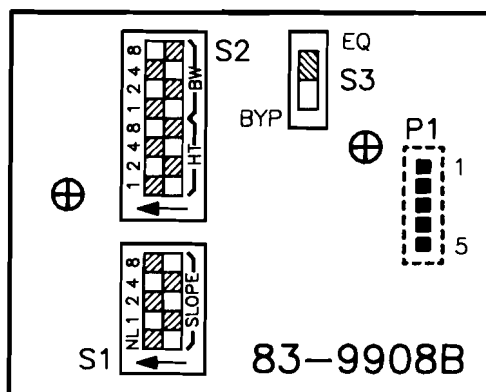

figure 6. 9908B switch locations
2.03 The 9908B contains one option switch, *S3*, a two-position miniature slide switch whose location on the subassembly is shown in figure 6. Depending upon the setting of this switch, the 9908B's equalization circuitry is either inserted into the host module's transmission path or electrically bypassed, as desired. Set *S3* as follows:
figure 6. Switch *S1* is a five-position DIP switch that conditions the subassembly for use with nonloaded or loaded cable (*SLOPE NL position*) and also controls the degree of slope for the equalization introduced (*SLOPE 1, 2, 4, and 8 positions*). Switch *S2* is an eight-position DIP switch that controls the height of bump of the equalization introduced (*HT 1, 2, 4, and 8 positions*) and also determines the bandwidth affected by that equalization (*BW 1, 2, 4, and 8 positions*). For each equalization parameter (slope, height, and bandwidth), the 1, 2, 4, and 8 switch positions are cumulative: the selected *SLOPE*, *HT*, or *BW* equalization setting is the sum of the respective 1, 2, 4, and 8 DIP-switch positions set to *ON*. Thus, for each equalization parameter, a setting of 0 to 15 is possible.